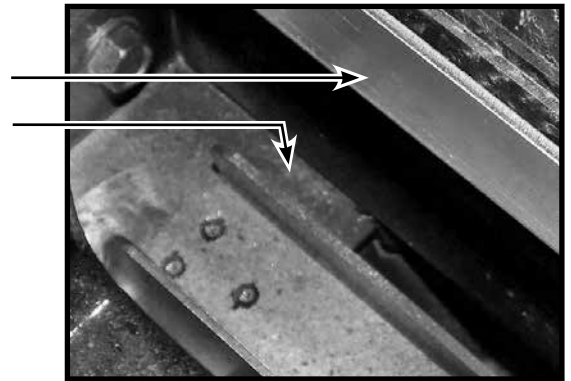

Figure 54: Glass door positioning.
1. Lower the glass door frame into place (Figure 54) making sure that the frame fits into the horizontal slot on the floor of the firebox.